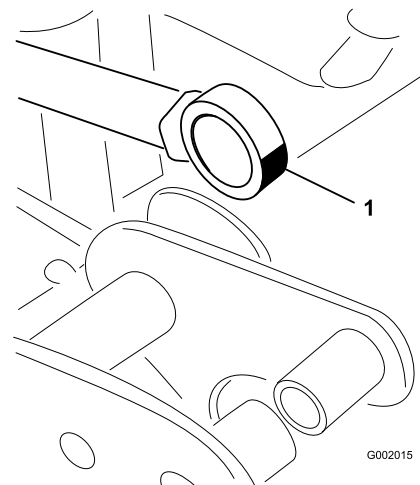

Figure 76
5. Swivel the rod-end bearing and apply grease into the bearing (Figure 76).